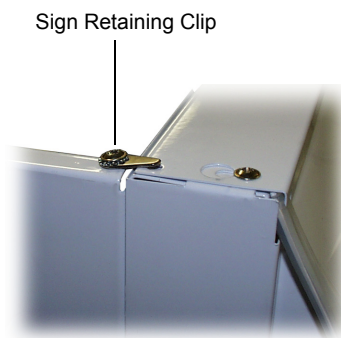

Figure 4: Sign Retaining Clip
4. Turn the sign retaining clips, on top of each side panel, to hold sign unit firmly in position (see Figure 4 over page).